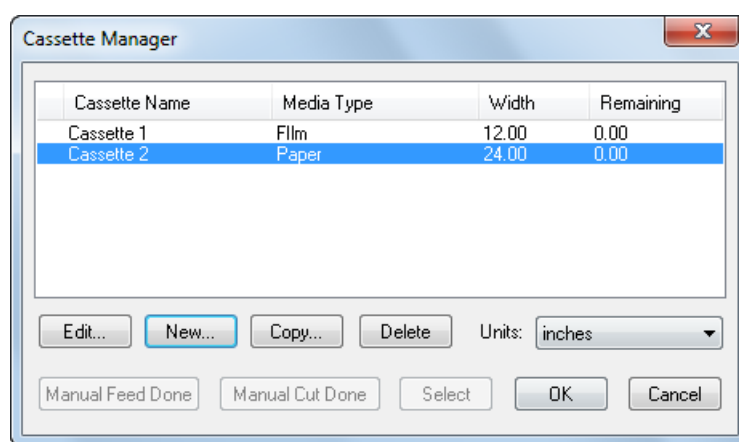

Figure 9.4 Cassette Manager dialog box
Before processing any jobs, you need to tell the RIP about the cassettes you are using and give details of the media currently in each cassette. You do this from the Cassette Manager dialog box. Click the **Cassette Manager** button in the Edit Page Setup dialog box or choose **Output > Cassette Manager** to open the Cassette Manager dialog box, as shown in Figure 9.4.
- If you perform a manual operation by using controls on the output device, you must inform the RIP. Display the Cassette Manager and click the button **Manual Cut** or **Manual Feed** whenever you perform the corresponding manual operation. See Figure 9.4, page 250, and the following description of the buttons.